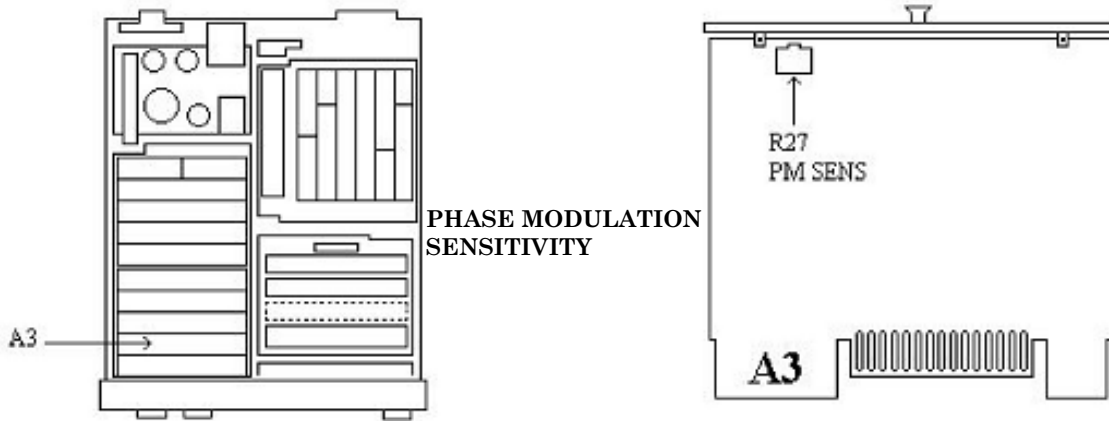

Figure 12. A3 board.
- (5) Press TI keys as listed in (a) through (c) below:
- (6) Adjust AM/FM test source **CARRIER FREQUENCY TUNE** control for a TI indication of approximately 100 MHz.
- (7) Press TI keys as listed in (a) and (b) below:
- (8) Adjust calibrator level for a TI indication of 100 kHz.
- (9) Press TI **ΦM** key.
- (10) Adjust A3R27 PM SENS (fig. 12) for a TI indication of 100 ± 0.2 rad. (R)